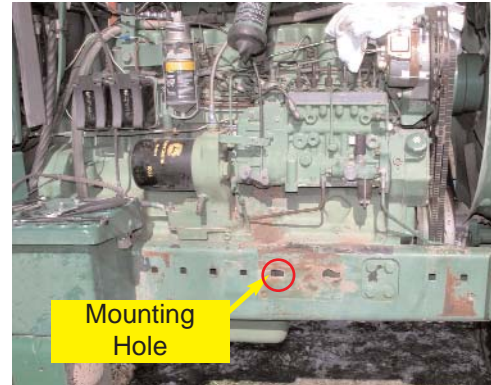

Figure 2a. Tractor mounting location.
a. Locate the rectangular or square hole on the right side of the tractor frame as shown. (Figure 2a.)